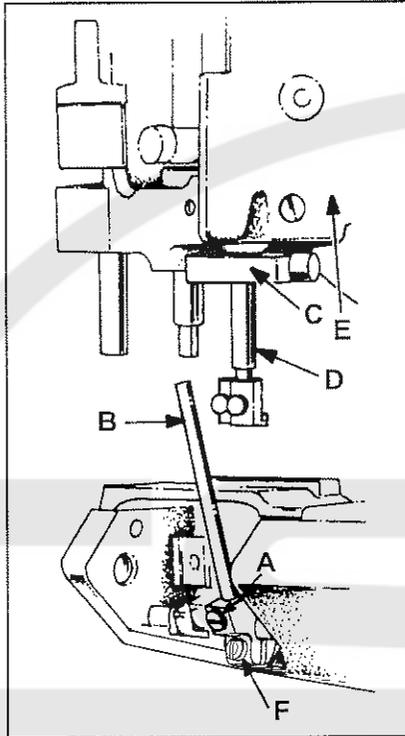
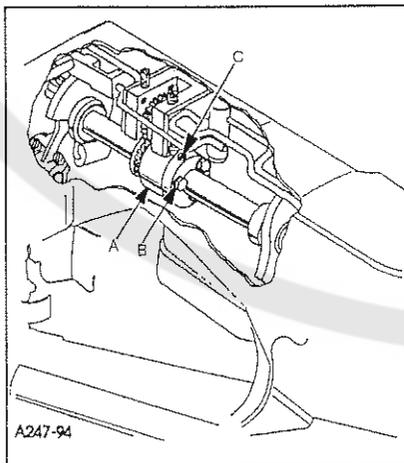

FIG. 2
FIG. 3
To synchronize the machine, remove the needles, presser foot, throat plate, feed dogs and upper feed roller mechanism. Rotate handwheel in the operating direction until the needle bar is at the bottom of its stroke and just begins its upward travel. Loosen screw (A, Fig. 2) and remove the looper for the left hand needle from the looper holder. Insert a straight steel rod (B) $5/32$ " (3.9mm) or $11/64$ " (4.3mm) diameter by $2-1/2$ " (63.5mm) long into looper holder and retighten screw (A). Rotate the handwheel until the rod (B) is at the extreme left and reinstall the throat plate. Loosen screw (F) in looper holder and move the holder left or right until the right side of the rod is approximately $5/32$ " (4.0mm) from the left edge of the throat plate, tighten screw (F). Turn the handwheel in the operating direction, with needle bar rising until rod (B) comes in contact with the edge of the throat plate. At this point, clamp Union Special timing gauge No. TT147 (C) around the needle bar (D), flush against the underside of the machine casting (E). Rotate handwheel in the opposite direction until either the gauge contacts the machine casting on the up stroke of the needle bar or the rod contacts the edge of the throat plate. Maximum allowable clearance between gauge and casting or rod and throat plate is .005" (0.1mm)
Both ends of the adjustable split coupling are secured to the crankshaft and main shaft by spot screws and set screws. On the main shaft end of the coupling (A, Fig. 3) three screws (B) thread horizontally through the coupling. The holes in the main shaft end of the coupling are larger than the diameter of the screws, permitting several degrees of rotation in either direction to properly synchronize the needle and looper. Loosen the three horizontal clamp screws (B, Fig. 3). With rod (B, Fig. 2) at its farthest position to the left, snug the uppermost horizontal clamp screw enough to hold coupling (A, Fig. 3) in position. If the handwheel is turned in reverse of operating direction and gauge (C, Fig. 2) on needle bar (D) contacts the machine casting (E) before rod (B) contacts the edge of the throat plate, loosen horizontal clamp screw (B, Fig. 3) which was snug, while holding the coupling in place with an Allen wrench in set screw (C). Rotate the handwheel slightly in reverse of operating direction, snug the uppermost horizontal clamp screw (B), recheck synchronization. If the handwheel is turned in reverse of operating direction and the rod contacts the edge of the throat plate before the clamp gauge contacts the machine casting, adjust as before, except turn the handwheel slightly in the operating direction. Use shim stock to insure no more than .005" (0.1mm) exists between gauge and casting or between rod and throat plate, in
both the operating and reverse directions of the handwheel. When this setting has been made, tighten the three horizontal clamp screws (B, Fig. 3) securely, and recheck both clearance points with .005" (0.1mm) shim gauge to assure no slippage occurred while tightening the screws.